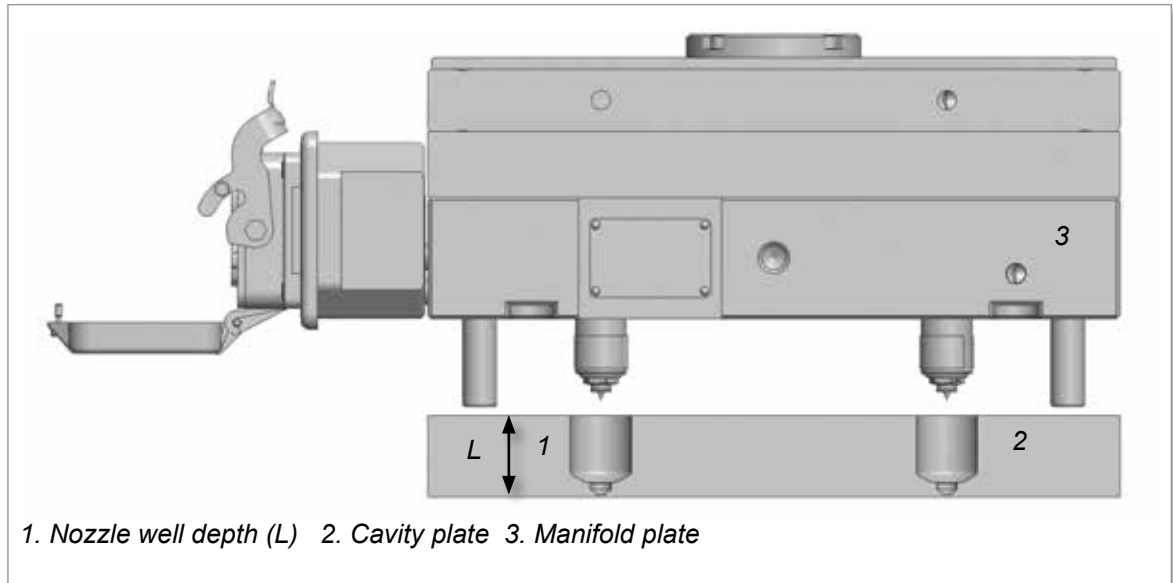

Figure 7-1 Nozzle depth
Check that the nozzle well depth (L) in the cavity plate is to *Mold-Masters* specifications. See Figure 7-1.
1. Check that the nozzle well depth (L) in the cavity plate is to *Mold-Masters* specifications. See Figure 7-1.